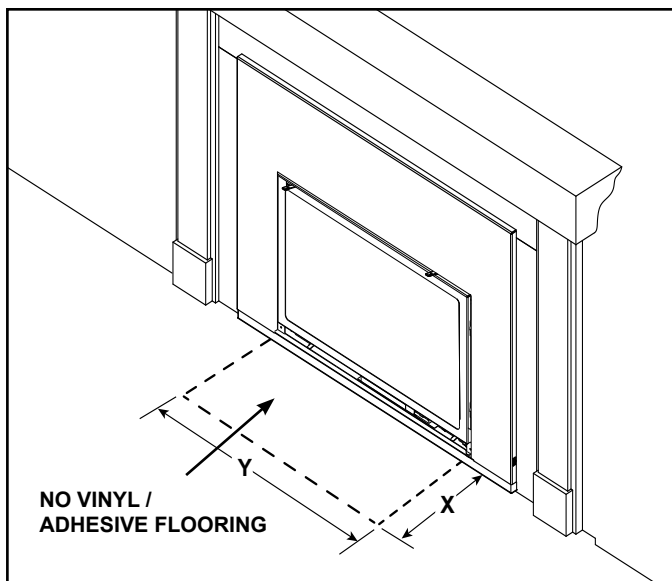

Figure 8.6 Hearth - Combustible Material Exception
- Combustible flooring may be located in front of the appliance. Exception - no vinyl / adhesive flooring. See Figure 8.6. Refer to Section 3.E for additional vinyl flooring information.